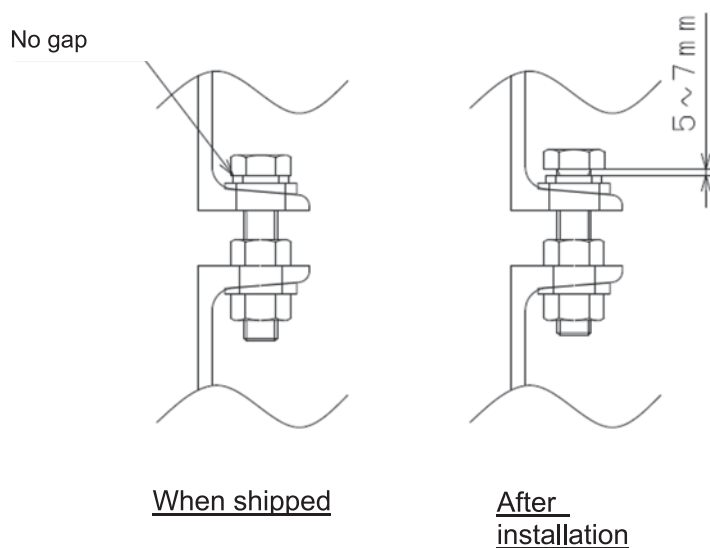

Figure 8 – Stopper bolt adjustment
- (1) The product is shipped with the stopper bolts tightened as shown in Fig. 8_ "When shipped." After installation of the product at the delivery site, be sure to fix the stopper bolts in the position shown in Fig. 8_ "After installation."
If the fan is operated with the stopper bolts locked (see Figure 8), the expected vibration-proof effect cannot be obtained.